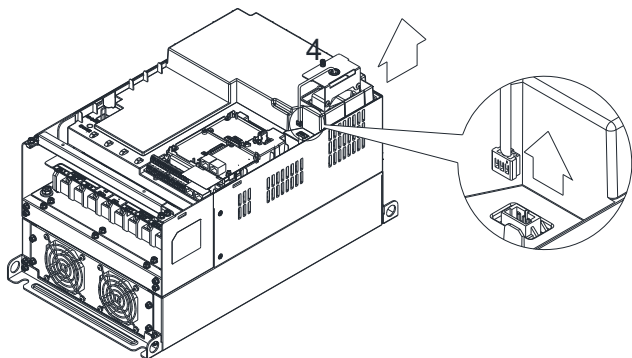

Figure 3
3. Loosen screw 4 (figure 3) and disconnect fan power and pull out the fan. (As shown in the enlarged picture 3) Screw 4 Torque: 10~12 kg-cm / [8.7~10.4 lb-in.] / [1.0~1.2 Nm]